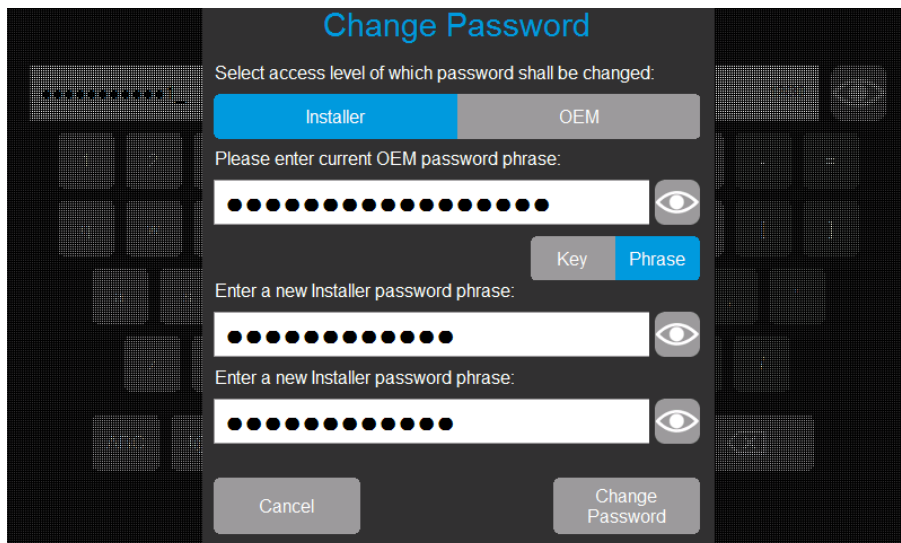

Fig. 77: Change Installer password as OEM dialog box with entered password.
7. When the Change Password dialog box reappears (refer to Fig. 77), select Change Password.